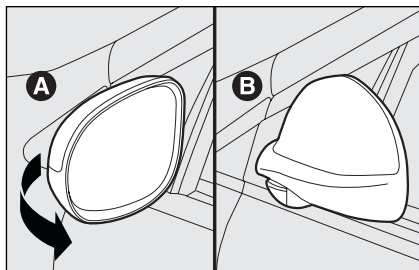

fig. 34
When required (for example when the mirror causes difficulty in narrow spaces) it is possible to fold the mirror moving it from position **A**-fig. 34 to position **B**.
**When driving the mirrors shall always be in position A**-fig. 34.